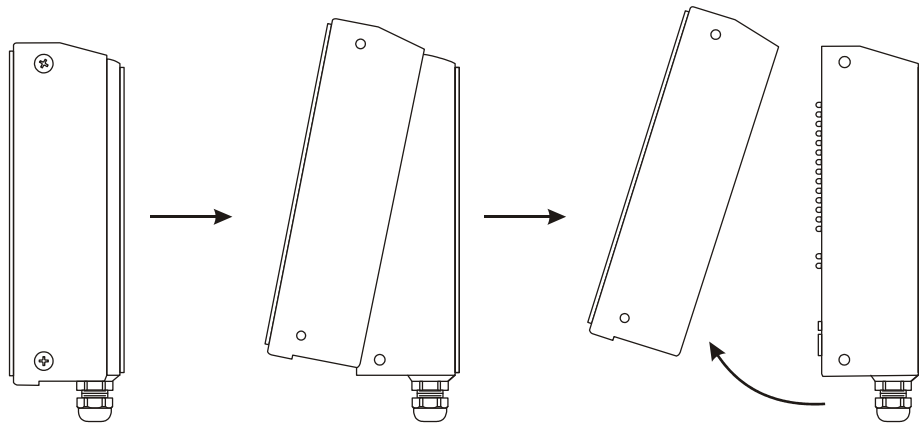

Figure 2.3 Side view of opening the enclosure
3. Slowly, guide the front cover off of the main enclosure. See Figure 2.3..